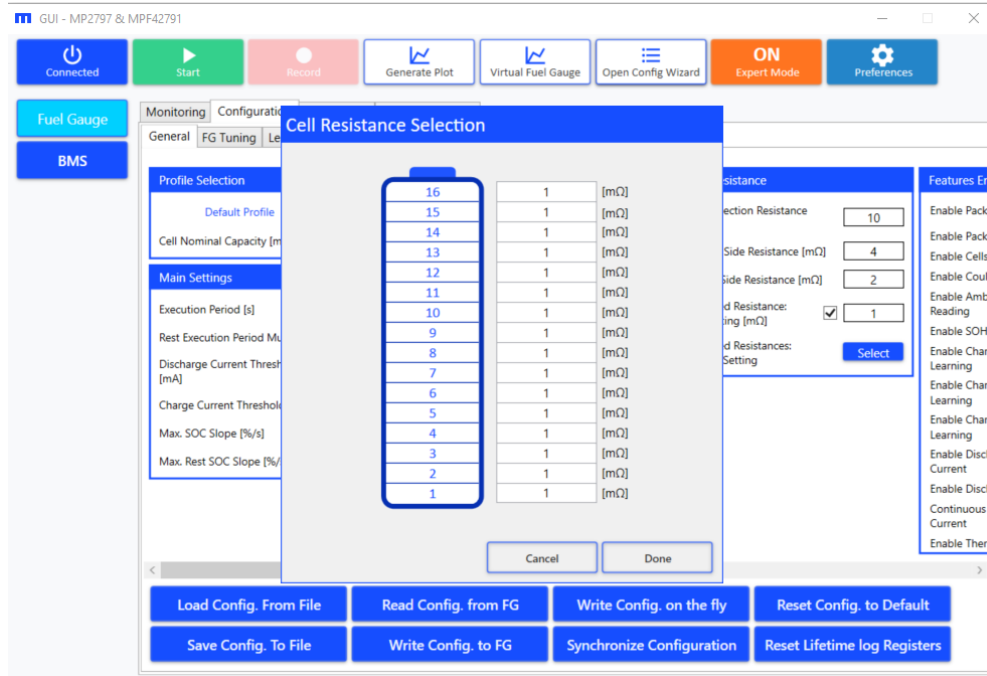

Figure 41: Cell Resistance Selection Window
- c. The third “Select” button opens the wizard to introduce the added resistance from each cell’s connections (see Figure 41 on page 32). Alternatively, the “Cells Added Resistance: Single
Setting” can set a single value for all cells. A checkbox in the window allows users to enable or disable this option (see Figure 41).